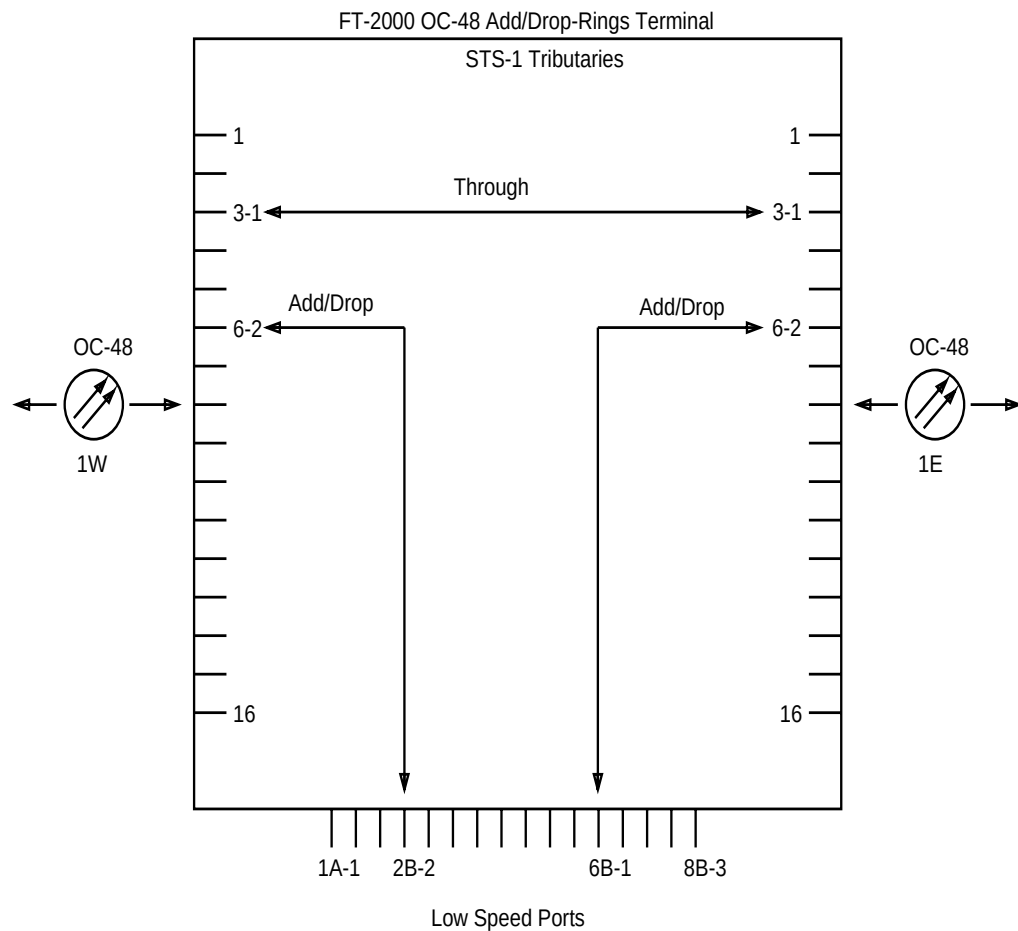

Figure 8-20. STS-1 2-Way Cross-Connections at an FT-2000 OC-48 Add/Drop-Rings Terminal
- **Add/drop cross-connections:** Add/drop cross-connections are made between any service low-speed port and any STS-1 tributary of OC-48 high-speed line 1E or 1W. For example, Figure 8-20 shows service low-speed port 2 of slot 2B (2B-2) cross-connected to service STS-1 tributary 2 of STS-3 tributary 6 (6-2) on OC-48 high-speed line 1W.
- **Through cross-connections:** Through cross-connections are made between any STS-1 tributary on OC-48 high-speed line 1E or 1W and the same-numbered STS-1 tributary of the other OC-48 high-speed line. For example, Figure 8-20 shows service STS-1 tributary 1 of STS-3 tributary (3-1) on OC-48 high-speed line 1W cross-connected to service STS-1 tributary 1 of STS-3 tributary 3 (3-1) on OC-48 high-speed line 1E.
When an STS-1 tributary of OC-48 high-speed line 1E or 1W is cross-connected to a service low-speed port, another service low-speed port may be cross-connected to the same-numbered STS-1 tributary of the other OC-48 high-speed line. For example, Figure 8-20 shows service low-speed port 2 of slot 2B (2B-2) cross-connected to service STS-1 tributary 2 of STS-3 tributary 6 (6-2) on OC-48 high-speed line 1W, and service low-speed port 1 of slot 6B (6B-1) cross-